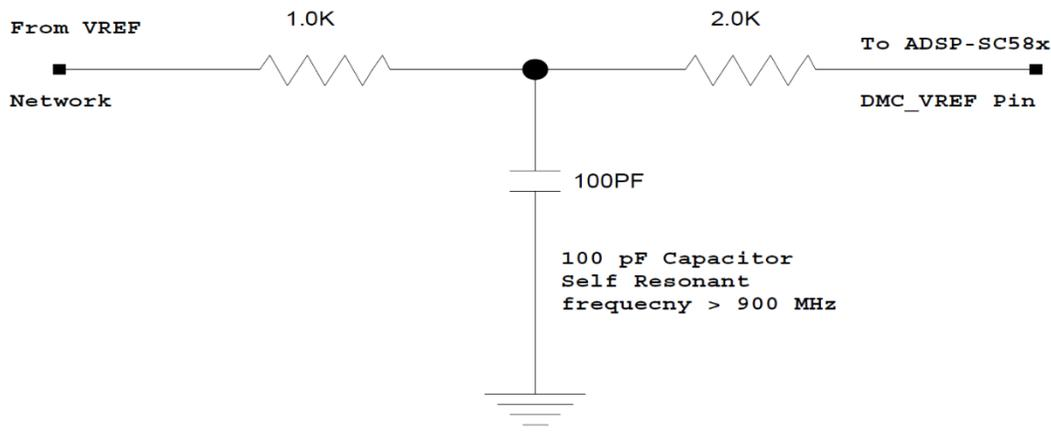

Figure 11. Recommended DMC\_VREF Filtering Network
- The RCR filtering scheme on DMC\_VREF is recommended for ADSP-SC5xx products, as shown in Figure 11.